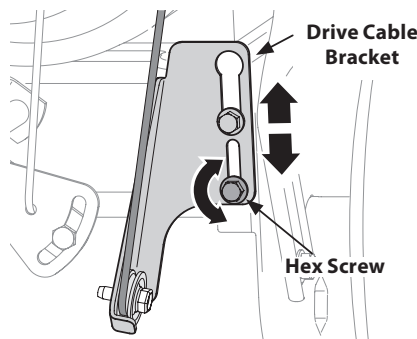

Figure 2-61
2. Loosen lower hex screw on drive cable bracket. See Figure 2-61.